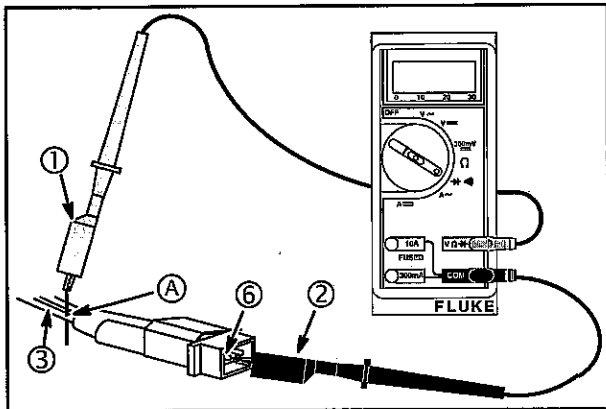

Fig. 17
4. Attach RED test lead clip (1) to point A and BLACK test lead clip (2) to DC output pin (6), **Fig. 17**. (It may be necessary to pierce wire with a pin as shown.)